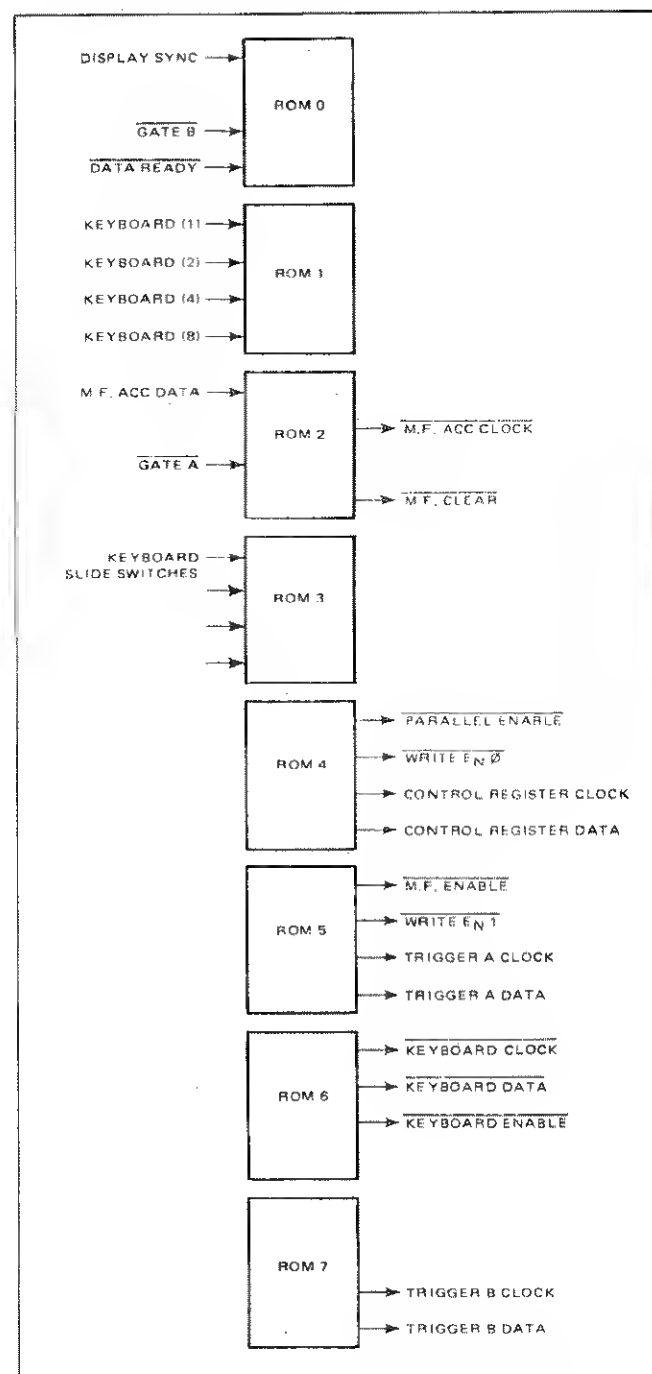

Figure 4.18 - Computer III ROMs (Standard)
4.4.7.2 ROM. Each of the ten ROMs used in the μP have preprogrammed 2048-bit memories (256 x 8-bit words) consisting of programs and data tables, latches and preprogrammed address. Each ROM also has a 4-bit input-output (I/O) port (each port is preprogrammed to be either an input or output port as indicated in figure 4.18) used to route information into and from the data bus lines in and out of the system.